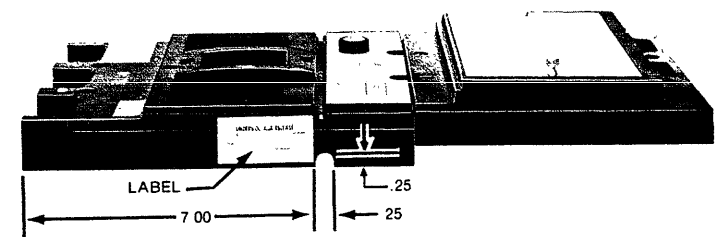

Figure 6
7. Slot cover for wire lead exit as shown and affix identification labels. (Figure 6)